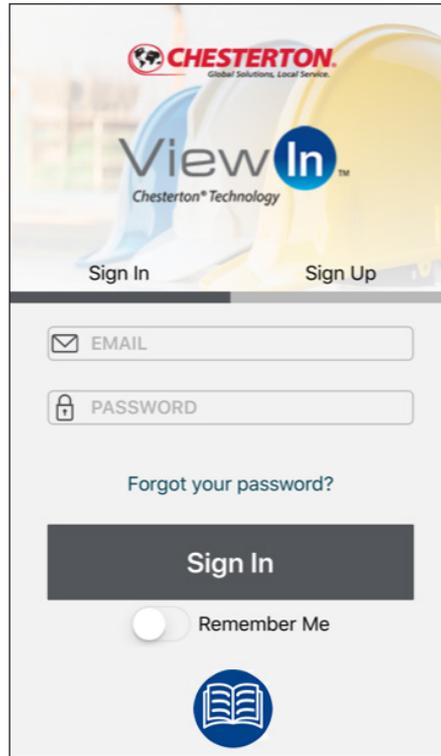

Figure 2
- Go to ViewIn and press **Sign Up** on the main page (Figure 2).